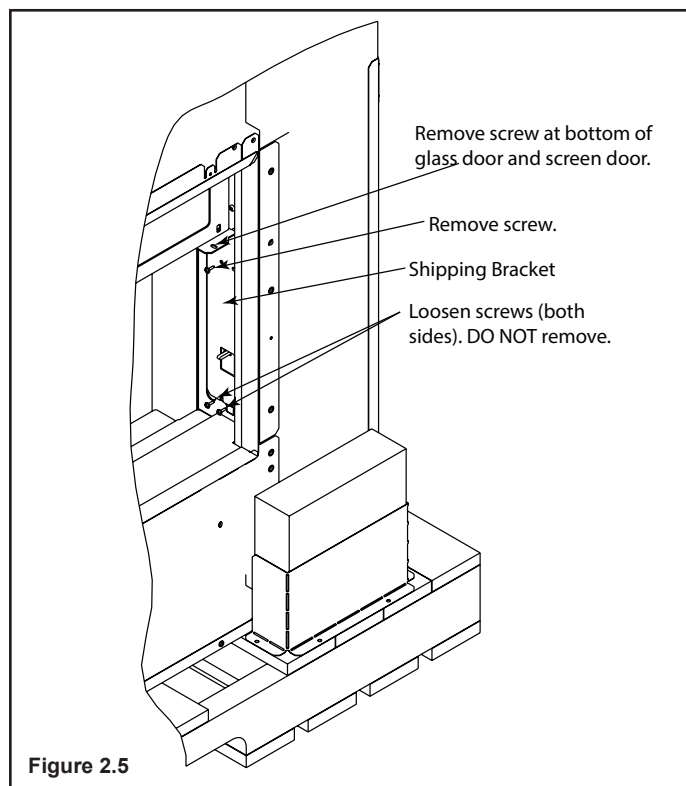

Figure 2.5
- n. Locate the (4) screws (2 on each end) that hold the door and screen to the shipping bracket and remove and discard them.*(see figure 2.5)
- r. Repeat for the other side. See Figure 2.5.